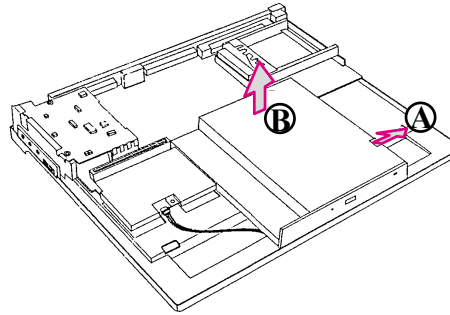

FIGURE 9-1
2. PULL THE CLIP OUTWARD (FIGURE 9-1 A) AND LIFT THE CD-ROM DRIVE TO UNPLUG ITS CONNECTOR FROM THE SYSTEM BOARD (FIGURE 9-1 B)